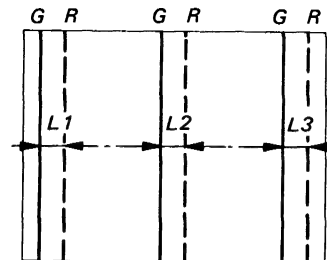

Fig. 3-54
- (7) Adjust RV5506 (H LIN (R)) so that "L1", "L2" and "L3" are equal in the middle of screen as shown in Fig. 3-54.